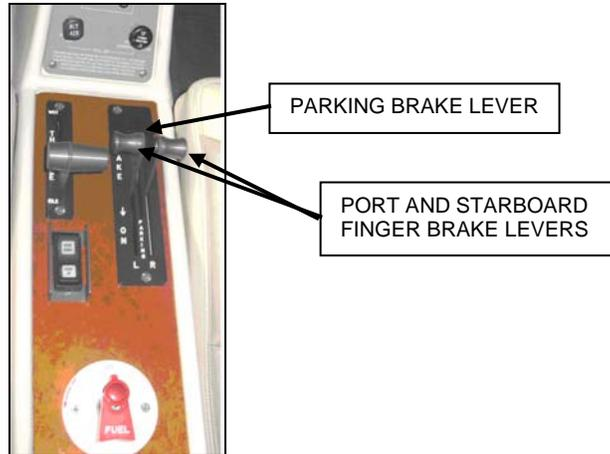

Figure 32-32 Finger Brake System Parking Brake Lever
For Finger Brake installation: The brakes are actuated by two master cylinders installed in the chassis center section and controlled by finger levers in the center console, see Figure 32-32. The levers are positioned for easy one-hand operation. Parking Brakes are applied using a center lever, located between the two brake levers. When pulled simultaneously with the brake levers, a ratchet mechanism will hold the left and right brake levers. To release the parking brakes, the brake levers are subsequently pulled without pulling the center lever, a spring disengages it and releases the parking brake.
7. While holding pressure with the finger brake levers, engage the parking brake lever located just ahead (forward) of the finger brake levers as shown in Figure 32-32. Release the finger brake levers once the parking brake is set.